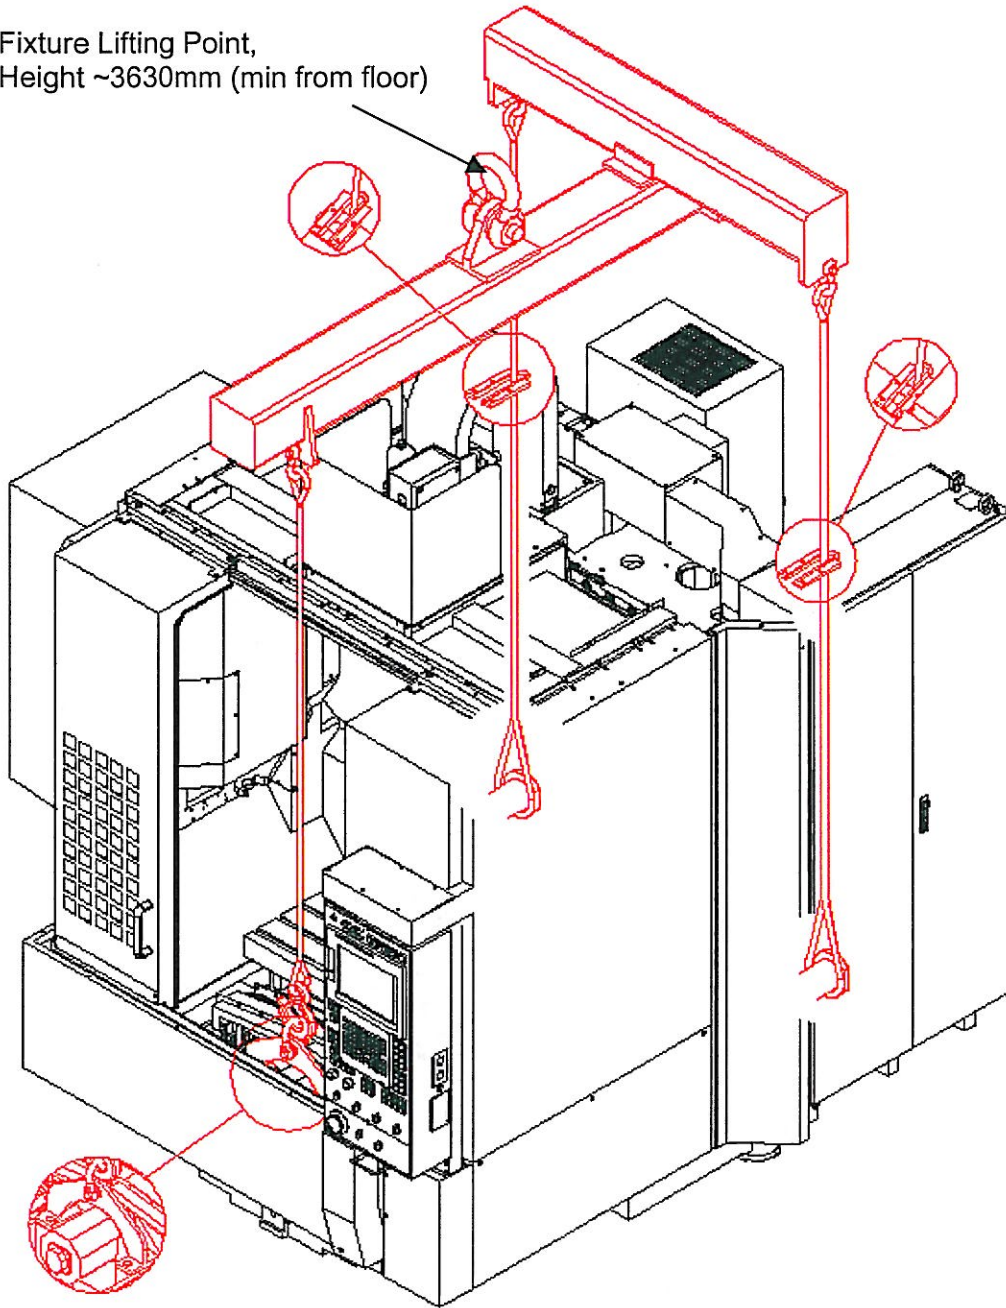
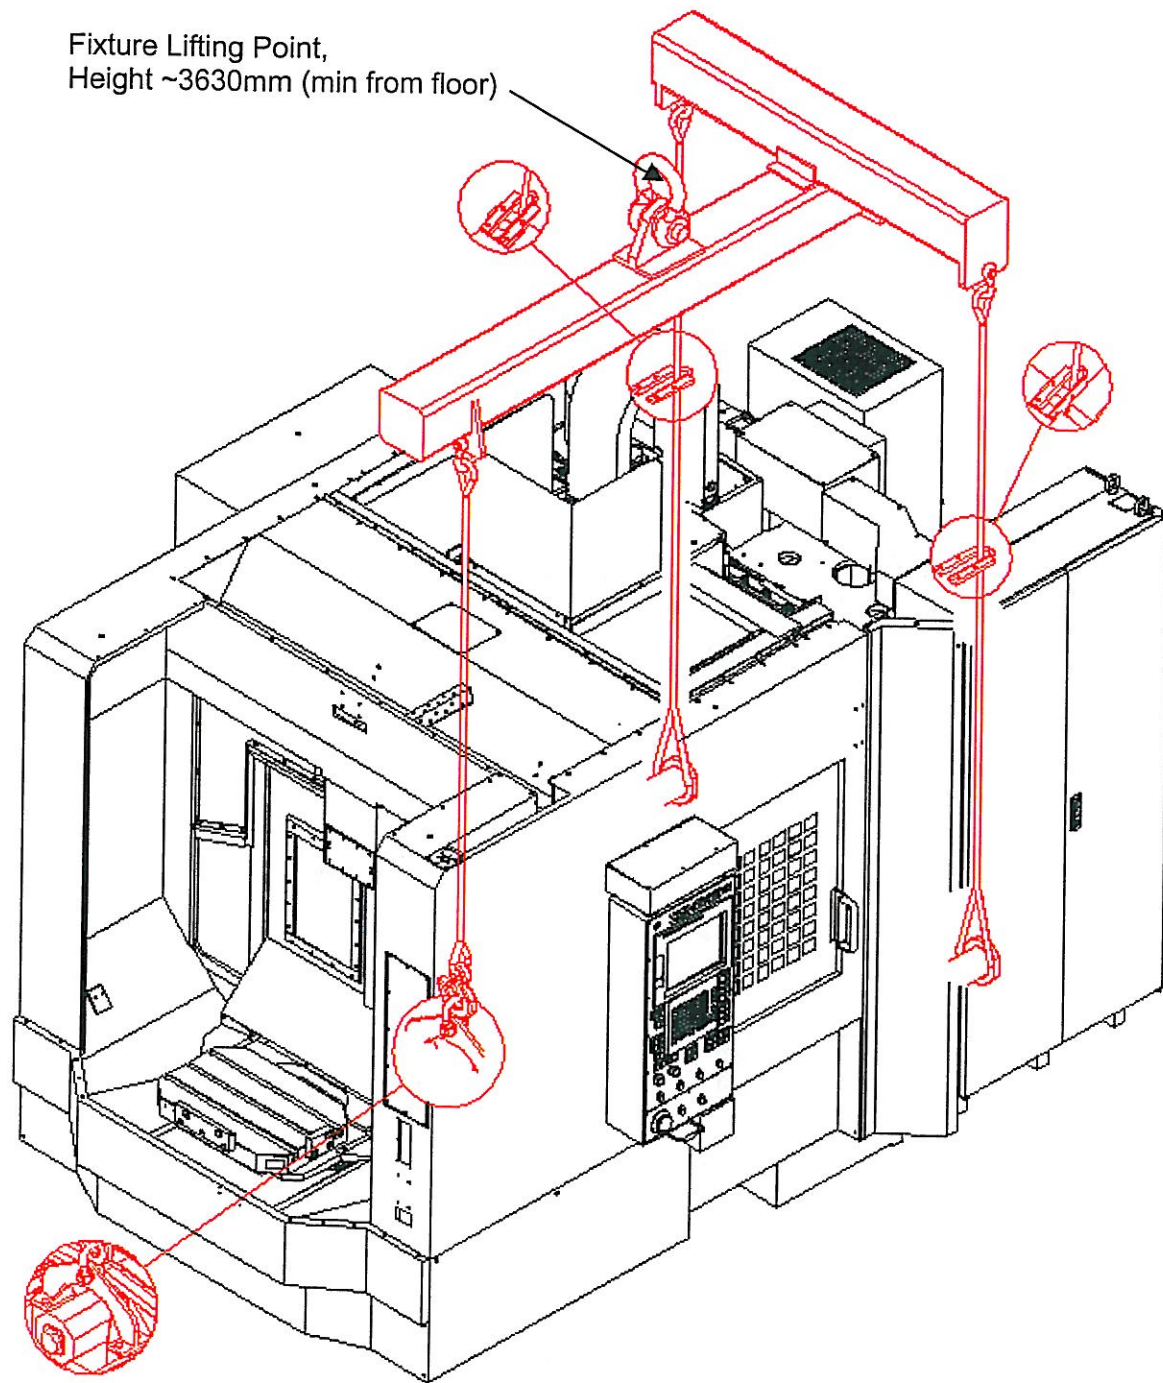

Fig 5.4.1a: S33/S56 Machine Lifting
Fig 5.4.1b: S33 APC Machine Lifting
- Make sure enough that the ropes are correctly and properly used as shown in the machine lifting diagrams Figure 5.4.1a and Figure 5.4.1b.
- Move the crane so that the lifting tackle is above the machine center, and slightly lower it so that the other end of the ropes can be fixed to the bottom jigs as shown in Figure 5.4.1a and Figure 5.4.1b.
Refer Figure 5.4.1a for lifting standard machine S33 and S56 and Figure 5.4.1b for lifting machine S33 APC.